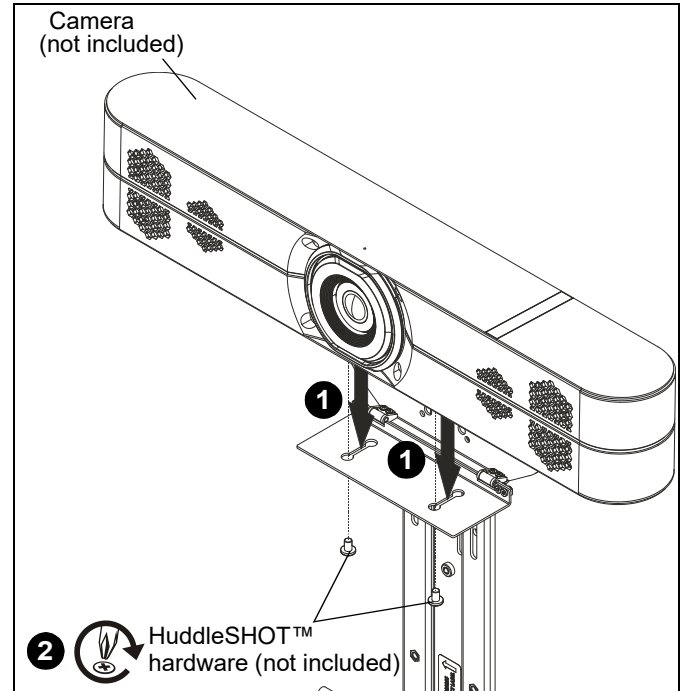

Figure 24
1. Place HuddleSHOT™ camera onto shelf. (See Figure 24)
2. Use screws provided with camera and slots on shelf to secure camera to shelf. (See Figure 24)